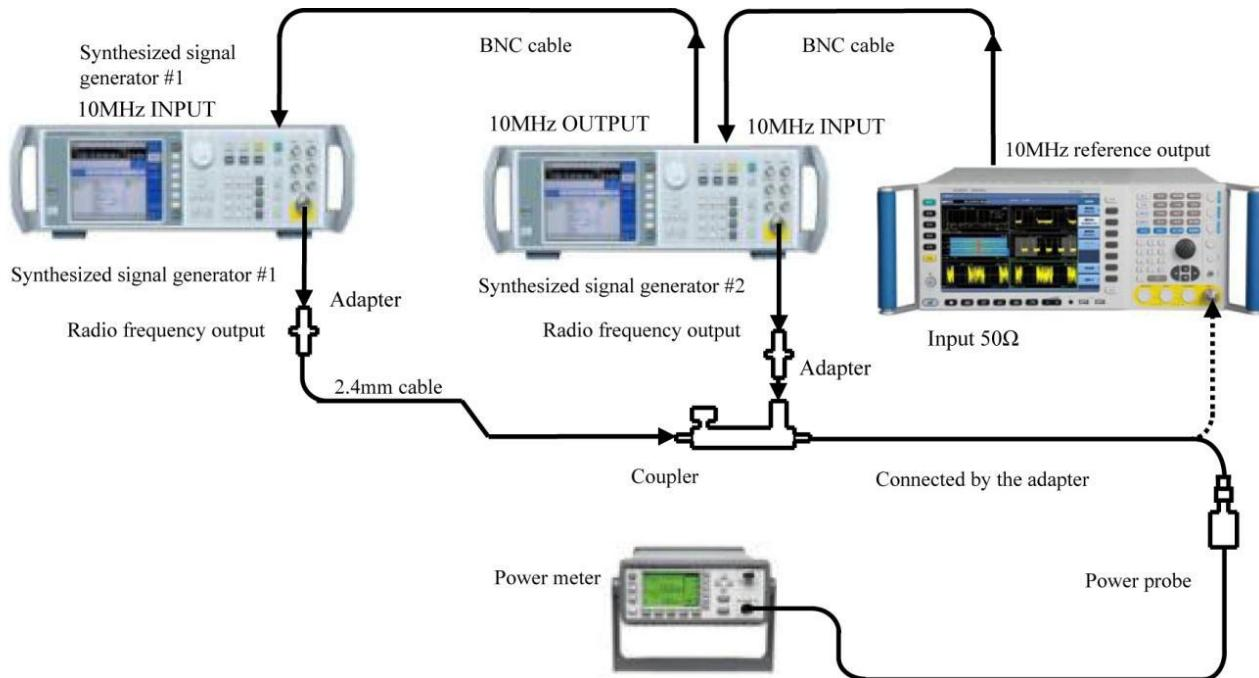

Fig. 8.13 Schematic diagram of 1 dB gain compression test
- 4) Connect the instrument according to solid lines in Fig. 8.13 with the output of the RF direction couple connected via the adapter to the power sensor.
- 6) Change the connections in the test according to dotted lines in Fig. 8.13, turn on the output of synthesized signal generator #2 and adjust the power level of synthesized signal generator #2 to display the signal peak 2~3 divisions under the 4051 reference level.
- 10) Connect the instrument according to solid lines in Fig. 8.13. Set the center frequency of the 4051 analyzer as 100 MHz, the frequency of synthesized signal generator#1 as 103 MHz and the frequency of synthesized signal generator#2 as 100 MHz.
- 13) Connect the instrument according to solid lines in Fig. 8.13. Set the center frequency of the 4051 analyzer as 200 MHz, the frequency of synthesized signal generator#1 as 2.003 GHz and the frequency of synthesized signal generator#2 as 2 GHz.
- 17) Connect the instrument according to solid lines in Fig. 8.13. Set the center frequency of the 4051 analyzer as 5 GHz, the frequency of synthesized signal generator#1 as 5.003 GHz and the frequency of synthesized signal generator#2 as 5 GHz.
- 21) Connect the instrument according to solid lines in Fig. 8.13. Set the center frequency of the 4051 analyzer as 15 GHz, the frequency of synthesized signal generator#1 as 15.003 GHz and the frequency of synthesized signal generator#2 as 15 GHz.